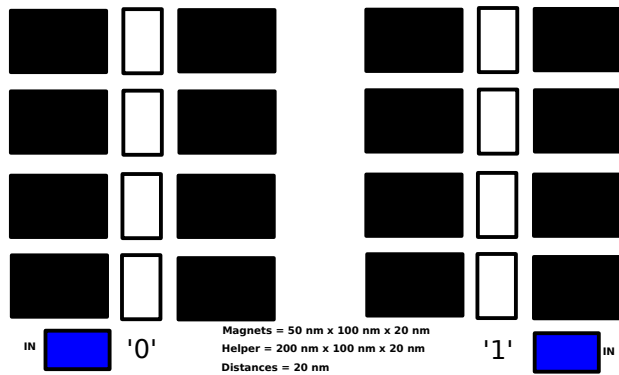

Figure 9: Vertical wire with helper blocks
4. Modify the circuit adding helper block according to Figure 9 and simulate it, with both logic 0 and 1, using a magnetic field of 75kA/m.